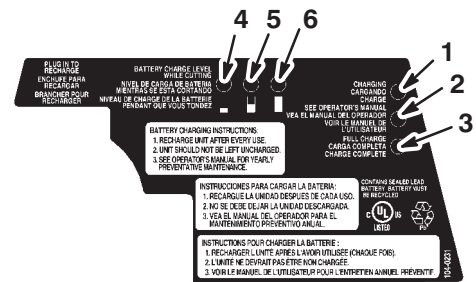

Figure 9
4. The three vertical LED lights on the control panel will indicate the charging status (Fig. 9). Refer to the Charging Chart, page 9, for a summary of the LED lights.
The three horizontal LED lights at the top of the control panel indicate approximately how much charge is left in the battery while the mower is in operation (Fig. 9). The lights are only accurate when the mower is operating and cutting grass. The following is an explanation of the symbols under the battery power status LED lights: